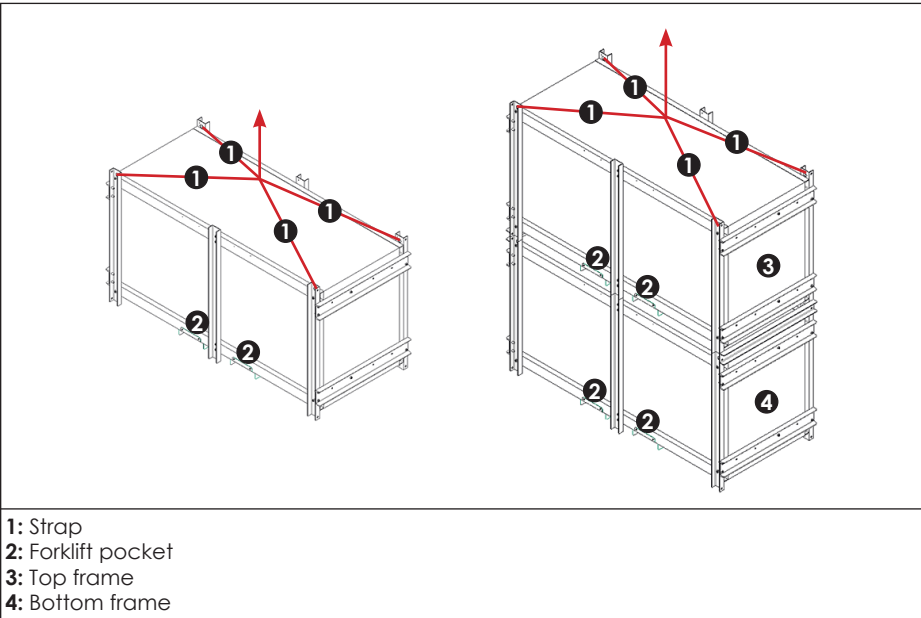

Figure 1: Lift Methods
1. Use either a forklift or a crane to lift the shipping frames. For single frames, lift from either the forklift pockets with a forklift or from the supplied lift points on the end of the frame with a crane/straps or a spreader beam. For stacked frames, lift from the forklift pockets on the top frame with a forklift or from the supplied lift points on the end of the frame with a crane/straps or a spreader beam. Do not forklift stacked frames from the bottom frame, as this is unstable and could result in serious injury to the operator and/or damage to the product. Refer to **Figure 1**.